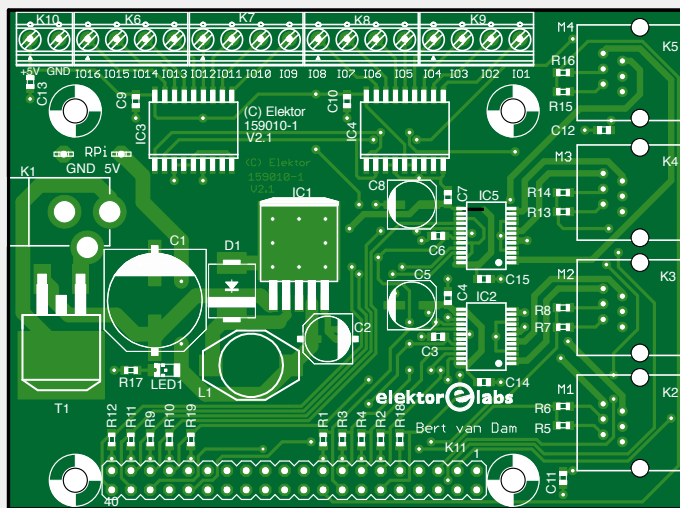

Figure 4. The layout of the circuit board. The 40-way connector K11 is mounted on the bottom of the circuit board.
In **Figure 4** you can see the circuit board that was designed for this LEGO control board. The dimensions and connector positions are obviously selected such that the board will fit trouble-free on a Raspberry Pi model 2 or 3 (using a 40-way I/O connector). Since most of the components are in SMD packages, you can also purchase a completely built version of the board from Elektor. Of course, it is also possible to do everything yourself, the circuit board layout is available from [1]. Note when assembling the board that the 40-way connector K11 is fitted on the bottom side of the circuit board and is soldered from the top side. The four NXT sockets for the motors are quite rare, you will have to search on the Internet for a suitable supplier.
- An (easily operated) small in-line switch (see **Figure 4**).